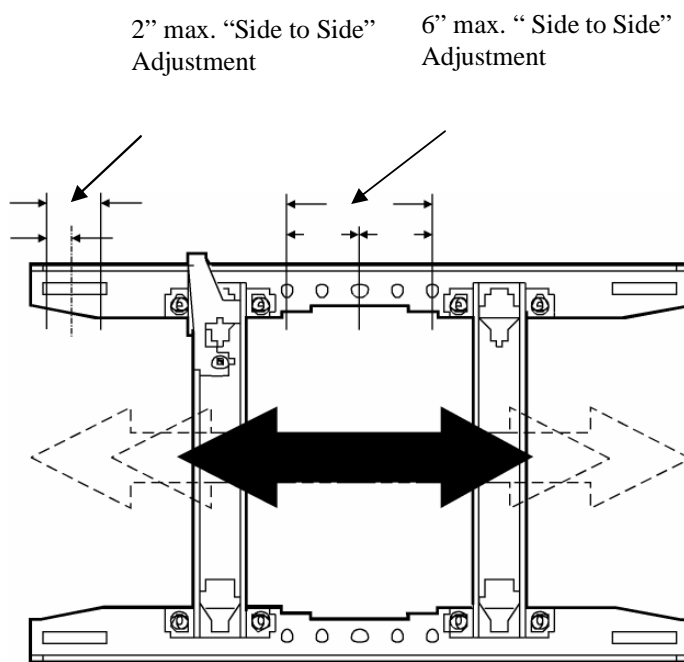

Figure 5. MSR Positioning Adjustments
1. Place MSR against wall and align MSR upper mounting holes with upper pilot hole(s) in wall. (see Figure 5).
2. Install 5/16" x 2-1/2" lag bolts (20), and 5/16" washers (30) through MSR upper mounting holes and into upper pilot holes. DO NOT fully tighten upper lag bolts at this time.
4. Install 5/16" x 2-1/2" lag bolts (20), and 5/16" washers (30) through MSR upper mounting holes and into lower pilot holes.
NOTE: Once mounted on wall, MSR location can be adjusted up to a maximum of one inch right or left of slot center, if using slotted mounting holes, or up to a maximum of three inches right or left if mounted using the single stud mounting holes (see Figure 5).